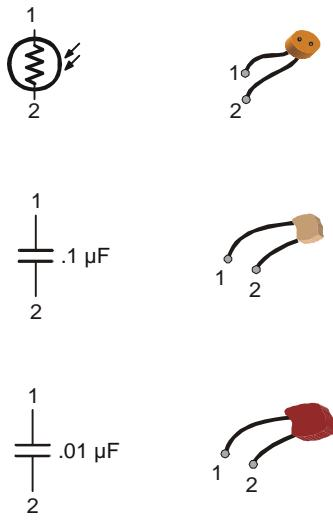

Figure 5-1: Photoresistor and Capacitor Circuit Symbols and Parts
Figure 5-1 shows the capacitors and photoresistor used in this experiment along with their schematic symbols. Both capacitors are nonpolar, meaning that terminals 1 and 2 as shown may be swapped without affecting the circuit. In addition to the capacitors, you’ll also need two (2) 220 ohm resistors (color code red-red-brown).